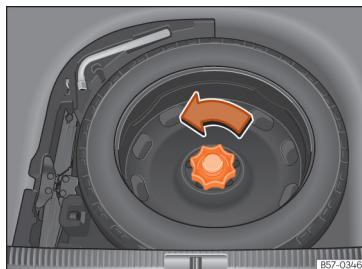

Fig. 231 In the luggage compartment: load floor raised.
- Turn the thumb wheel anti-clockwise »» Fig. 231.